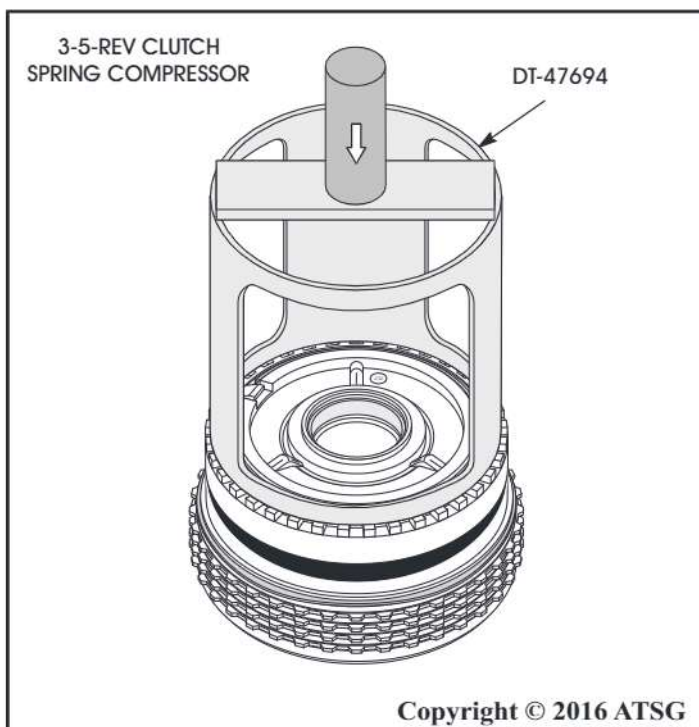

Figure 116
78. Compress the input speed sensor reluctor ring just enough to install the snap ring using spring compressor tool, as shown in Figure 116.
79. Install the snap ring with alignment tab centered in the snap ring opening (See Figure 116).